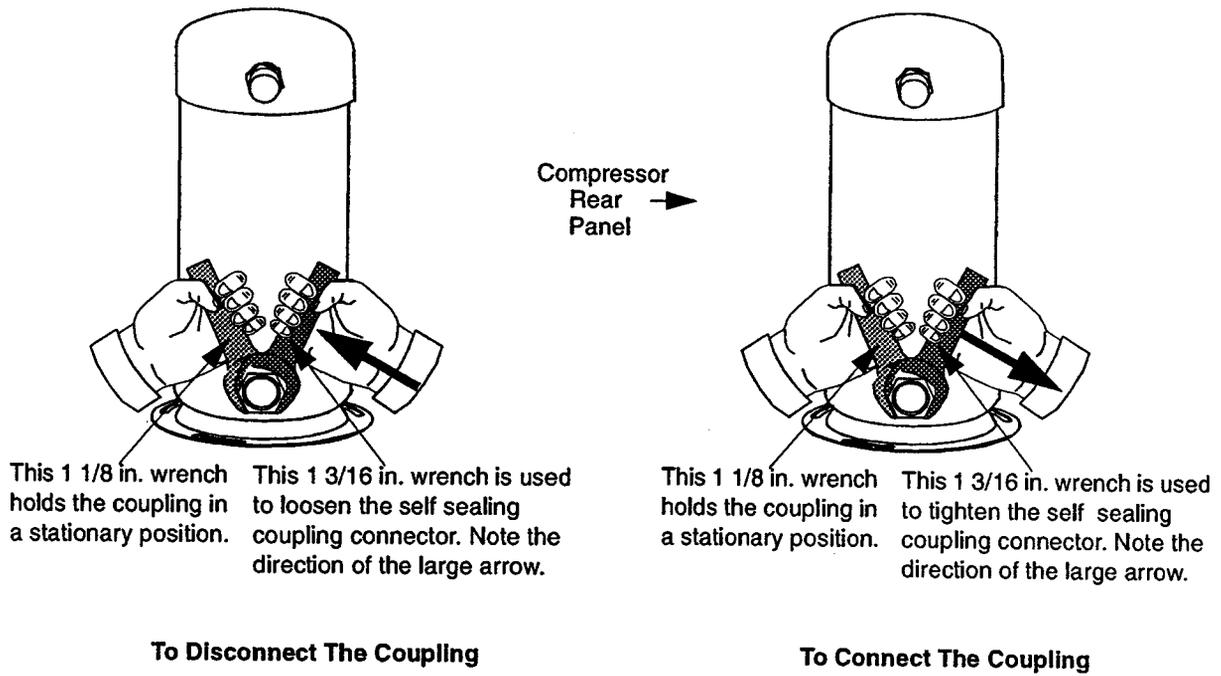

Figure 4-1: Disconnecting/Connecting the Adsorber Self-Sealing Coupling
6. Unscrew the two self-sealing coupling halves quickly to minimize gas leakage as shown in Figure 4-1.
7. Disconnect the adsorber-inlet self-sealing coupling as shown in Figure 4-1.
2. Connect the adsorber to the compressor internal piping. Refer to Figure 4-1.
Make sure to hold fast on the left coupling nut while tightening the right coupling nut, as shown in Figure 4-1.
- b. Make the first turns by hand and then firmly seal the connection using the two wrenches until the fittings “bottom”. Refer to Figure 4-1, for proper coupling of the self-sealing connection